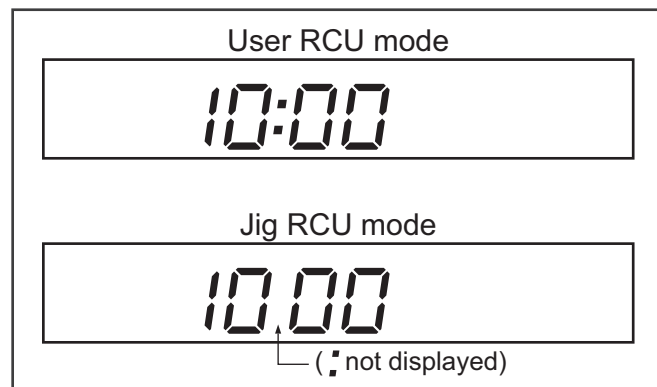

Fig.2-3a User/Jig RCU mode
- (1) Turn on the power.
- (2) Press the following remote keys continuously within 2 seconds "SET UP" → "2" → "8" → "ENTER". When the VCR is set to the Jig RCU mode, the symbols (":") in the time display of the FDP are turned off. (Refer to Fig.2-3a)